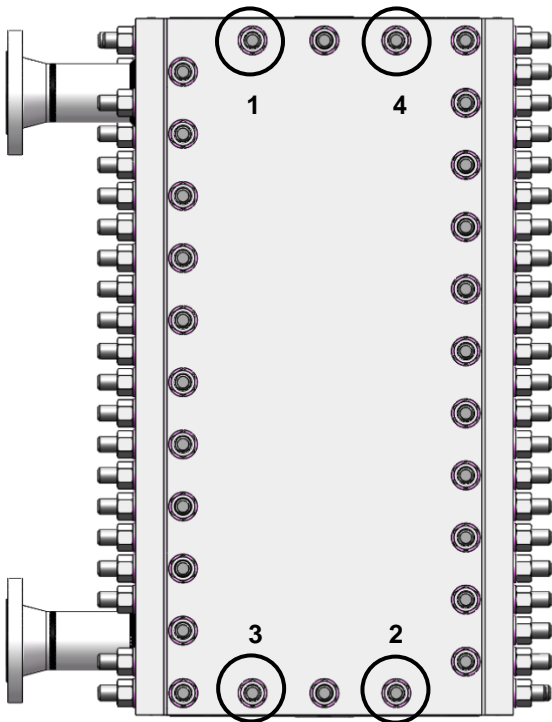

Figure 15
- Grease tips of threaded rods 1, 2, 3 and 4 (figure 15).